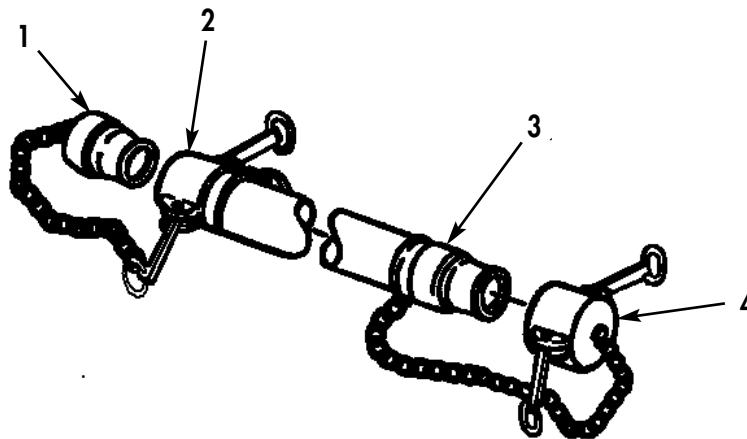

Figure 1. Hose Capped and Plugged.
1. Ensure dust cap (Figure 1, Item 4) and plug (Figure 1, Item 1) are installed securely on hose coupling halves (Figure 1, Item 3) and (Figure 1, Item 2).